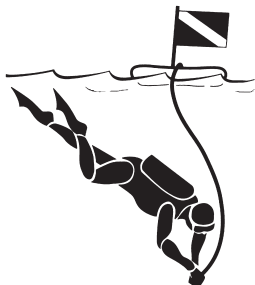

FIGURE 2-11 DIVER DOWN FLOAT
9. Stay at least 150 feet (45 m) away from areas marked by a diver down float (Figure 2-11).